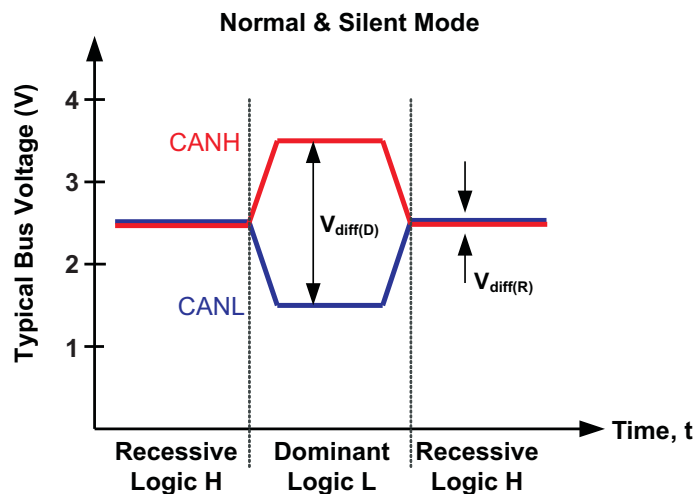
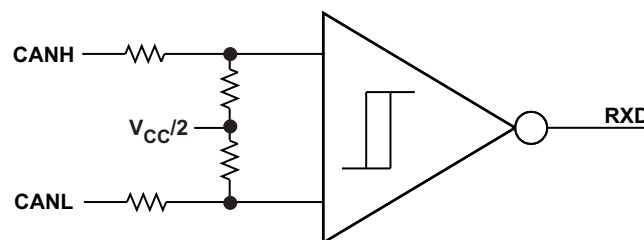

Figure 3. Bus States (Physical Bit Representation)
Figure 4. Simplified Recessive Common Mode Bias and Receiver
The CAN bus has two states during powered operation of the device; *dominant* and *recessive*. A dominant bus state is when the bus is driven differentially, corresponding to a logic low on the TXD and RXD pin. A recessive bus state is when the bus is biased to  $V_{CC} / 2$  via the high-resistance internal input resistors  $R_{IN}$  of the receiver, corresponding to a logic high on the TXD and RXD pins. See Figure 3 and Figure 4.
- (1) H = high level, L = low level, X = irrelevant, Z = common mode (recessive) bias to  $V_{CC} / 2$ . See Figure 3 and Figure 4 for bus state and common mode bias information.
- (2) Devices have an internal pull down to GND on S pin. If S pin is open the pin will be pulled low and the device will be in normal mode.
- (3) Devices have an internal pull up to  $V_{CC}$  on TXD pin. If the TXD pin is open the pin will be pulled high and the transmitter will remain in recessive (non-driven) state.